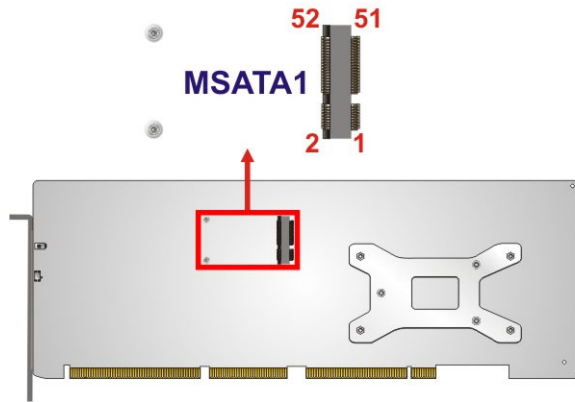

Figure 3-18: mSATA Slot Location
- CN Location:** See **Figure 3-18**